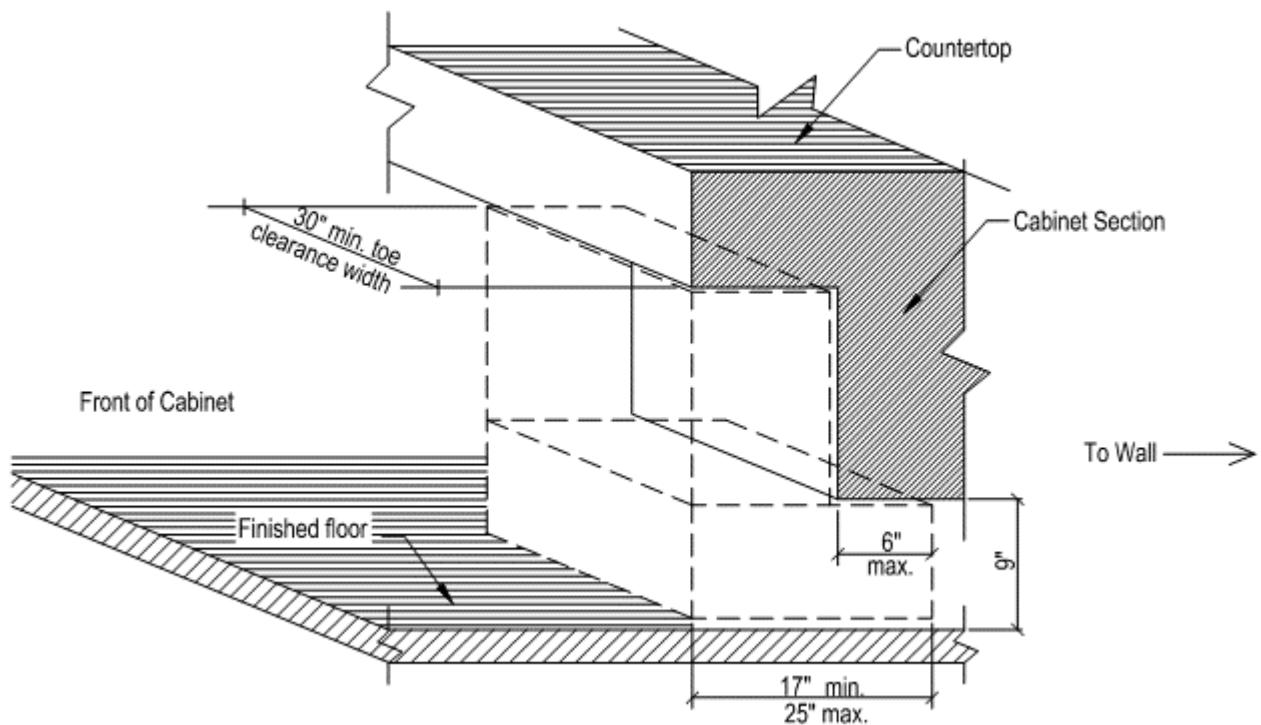

Figure 1 – Toe Clearance
- F. Clear floor space for range or cook-top:** 30" x 48" clear floor space positioned for parallel or forward approach shall be provided at the range or cook top. Toe and knee clearance provided per Figures 1 and 2 shall be provided where the clear floor space is positioned for forward approach.